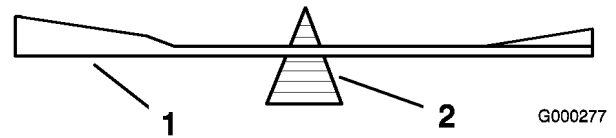
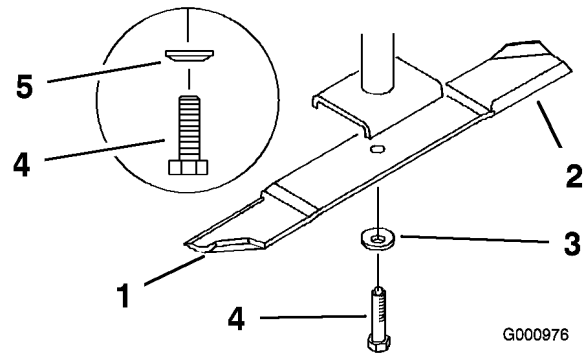

Figure 78
Figure 79
2. Remove the blade bolt, spring disk and blade from the spindle shaft (Figure 79).
1. Install the blade onto the spindle shaft (Figure 79).
2. Install the spring disk and blade bolt. The spring disk cone must be installed toward the bolt head (Figure 79). Torque the blade bolt to 85-110 ft-lb (115-150 N•m).
2. Check the balance of the blade by putting it on a blade balancer (Figure 78). If the blade stays in a horizontal position, the blade is balanced and can be used. If the blade is not balanced, file some metal off the end of the sail area only (Figure 79). Repeat this procedure until the blade is balanced.